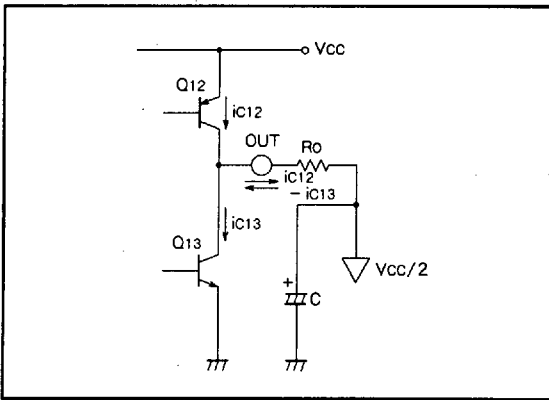

Fig. 4 Equivalent circuit of output stage
The M5222 has a floating-type output stage with the collectors of Q12 and Q13 joined as shown in FIG. 4. Here, the difference of the combined currents will become the output current that will flow through the load. Note that it is necessary to set the DC potential of this output pin by externally-connected resistor  $R_o$  and that it is generally DC-connected to the  $V_{cc}/2$  pin (or to pin (3)).